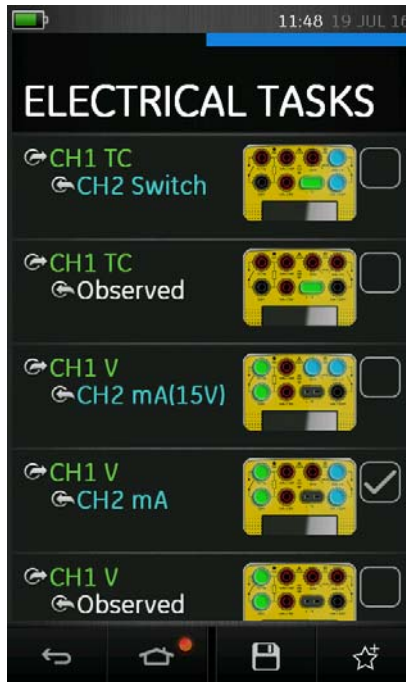

Figure 2-3 Selected Task
3. Functions can be copied to FAVOURITES (refer to section 2.2.3) by selecting (tick) as shown in Figure 2-3 and selecting Copy Task.